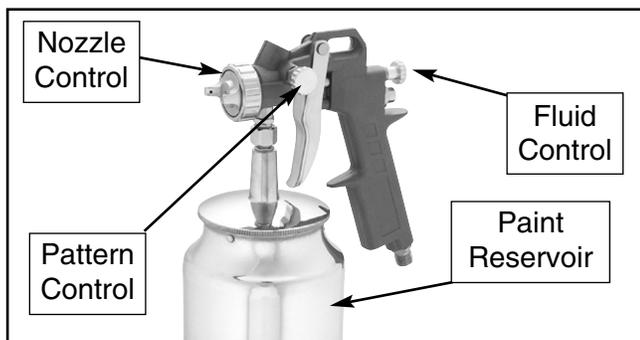

Figure 1. Spray gun controls.
3. Identify the spray gun controls in **Figure 1** and adjust in the following order: